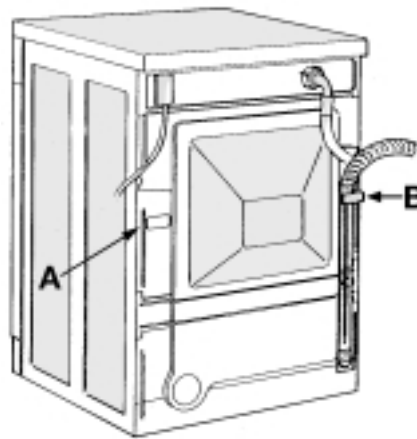

Fig. 1
1. Unhook the drain hose from the left clip, (see arrow A Fig. 1.)
**Do not loosen the drain hose connection, see arrow B in Fig. 1, otherwise there is the risk of leakage (danger of scalding with hot water).**